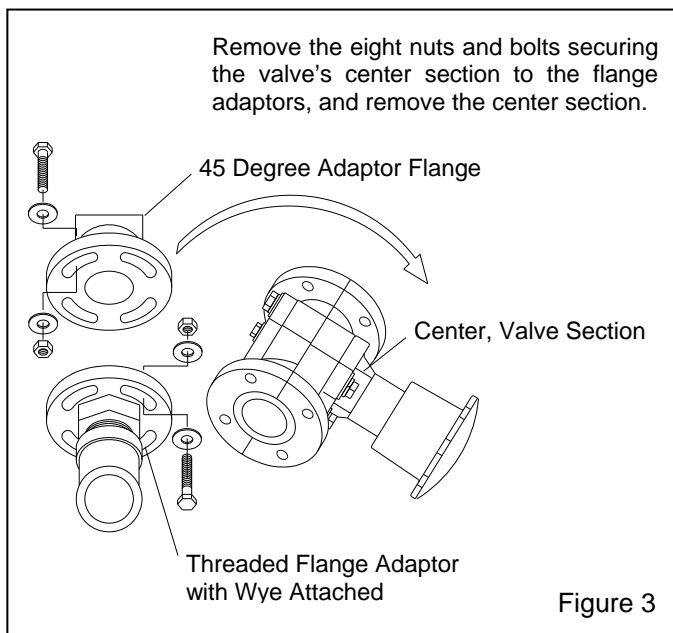

Figure 3
2.4 Use a 1-1/2 x close, schedule 80 nipple to connect the 45 degree adaptor flange to the outlet at the bottom of the blast machine as shown in Figure 2. Position the clean-out toward the air inlet side of the machine. NOTE: If interference prohibits the installation of an assembled valve, remove the four fasteners securing the 45 degree adaptor flange to the valve section, and if necessary the threaded flange adaptor from the valve section, as shown in Figure 3, then reattach the valve section when the adaptor(s) is installed.
4.2.4 Remove the center valve section, by removing the eight flange bolts and sliding the center valve section out from between the flanges, as shown in Figure 3.